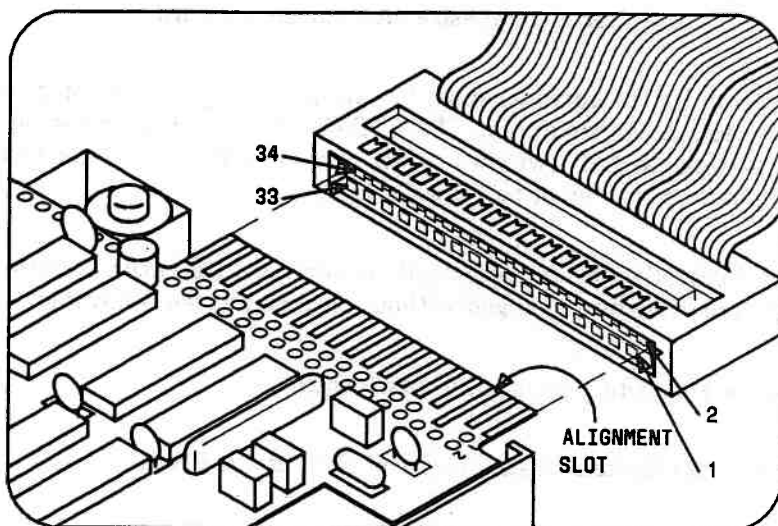

Figure 3-26. Connecting the Signal Cable to the MFD Unit
4. Connect the ground, power, and signal cables to the MFD Unit. Make sure that the signal cable connector for MFD Unit A is the same one that was used previously. Verify that the numbers on the signal cable connector correspond to the numbers on the MFD Unit (Figure 3-26).